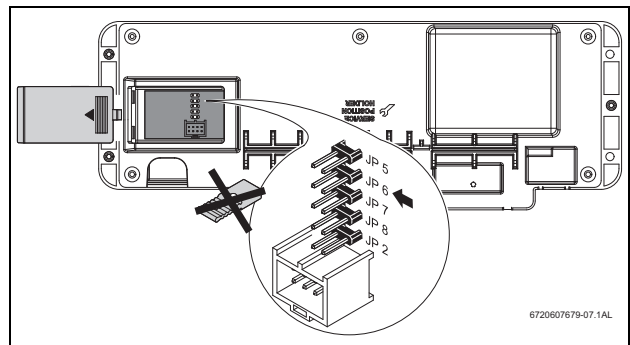

Fig. 12 NG to LPG
- ▶ 1. Remove jumper from location JP6 on the control board (Fig. 12).